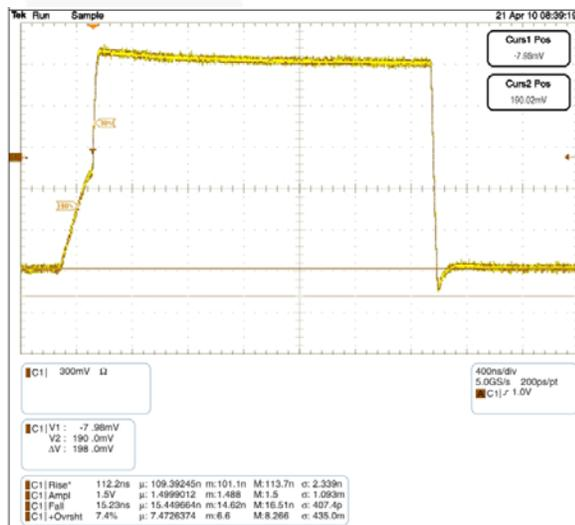

Figure 3. Waveform C: 600pF, R_{PU} : 2.2K Ω
Due to I²C's open-drain topology, I²C masters and slaves are not push/pull drivers. Logic LOWs are pulled down (I_{sink}), while logic HIGHs are "let go" (tri-state). For example, when the master lets go of SCL (SCL always comes from the master), the rise time of SCL is largely determined by the RC time constant where $R = R_{PU}$ and $C =$ the bus capacitance. If the FXMA2102 is attached to the master in this example, say on the A port, and there is a slave on the B port, the Npassgates acts as a low-resistive short between both ports until either of the port's $V_{CC}/2$ thresholds are reached. After the RC time constant has reached the $V_{CC}/2$ threshold of either port, the port's edge detector triggers both dynamic drivers to drive their respective ports in the LOW-to-HIGH (LH) direction, accelerating the rising edge. The resulting rise time resembles the scope shot of Figure 3. Effectively, there are two distinct slew rates to the rise time. The first slew rate (slower) is the RC time constant of the bus. The second slew rate (much faster) is the dynamic driver accelerating the edge.
The FXMA2102 dynamic drivers have current sourcing capability and can drive a 400pF capacitive bus. This is beneficial when an I²C buffer/repeater is required. The I²C specification stipulates a maximum bus capacitance of 400pF. If an I²C segment exceeds 400pF, an I²C buffer/repeater is required to split the segment into two segments, each of which is less than 400pF. Figure 3 is a scope shot of an FXMA2102 driving a lumped load of 600pF. Notice the (30% - 70%) rise time is only 112ns ($R_{PU} = 2.2K\Omega$). This is well below the maximum rise time of 300ns. So, not only does the FXMA2102 drive 400pF, but it also provides headroom below the I²C specification maximum rise time of 300ns.